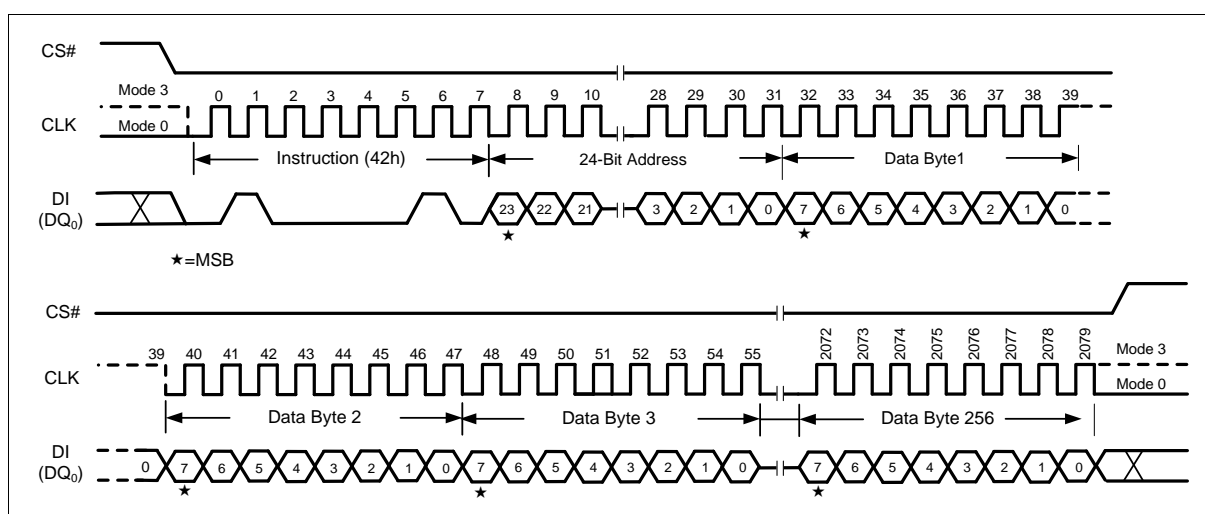

Figure 60 Program Security Sectors Instruction (SPI Mode only)
The Program Security Sector instruction sequence is shown in Figure60. The Security Sector Lock Bit (LB) in the Status Register-2 can be used to OTP protect the Security Sectors. Once a lock bit is set to 1, the Security Sector will be permanently locked and Program Security Sector instruction will be ignored.